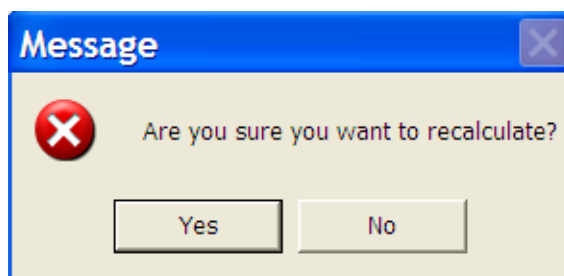

Figure 10-12: Message – Are you sure you want to recalculate?
3. When all wells to be rejected have been marked as such, on the toolbar, choose **Calculate**. Message appears (Figure 10-12).
3. When all wells to be restored have been marked as such, on the toolbar, choose **Calculate**. Message appears (Figure 10-12).